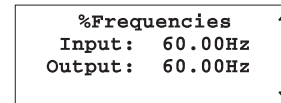

Fig 5-17 Frequency Status Screen
- ❑ 4. Press the down arrow key to scroll to the frequency status screen. See figure 5-17. Verify that the input frequency is approximately 60 Hz.